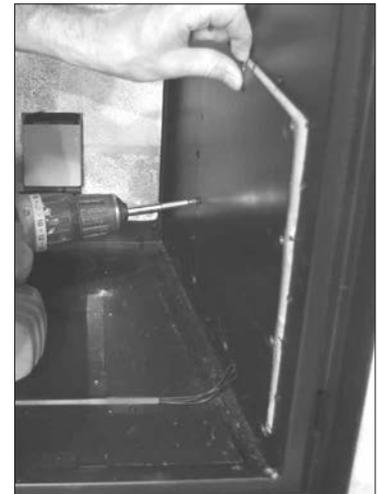

Figure 57: Removing Access Cover.
12. Remove the Valve Access Cover by removing all ten (10) T-20 screws (Figure 57).